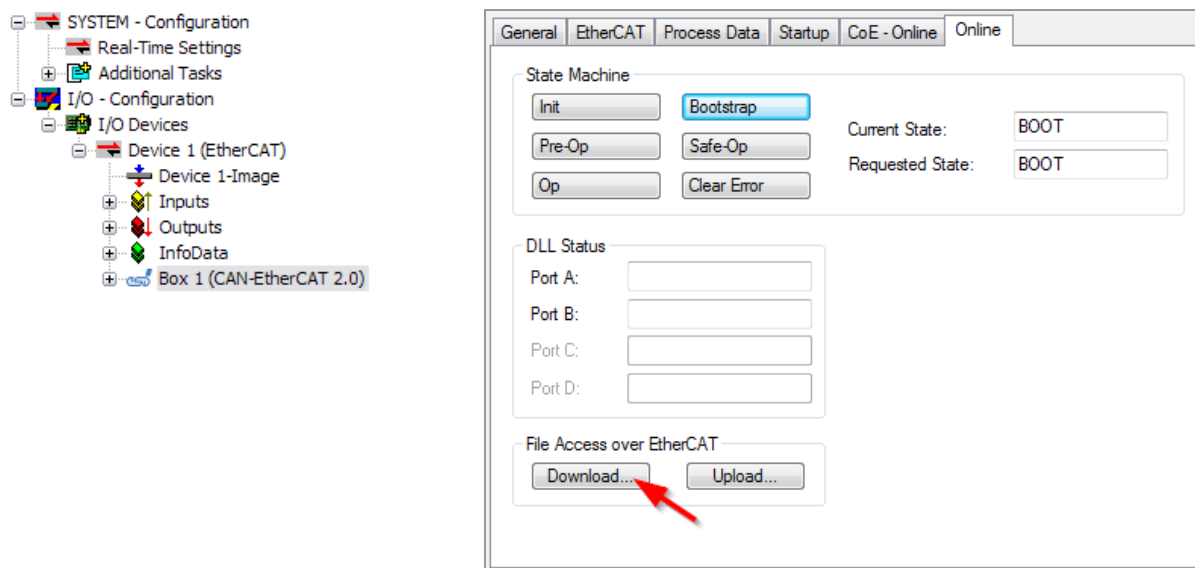

Figure 32: Firmware update by FoE
2. Set slave to “Bootstrap”, by button **Bootstrap** (Fig. 32)